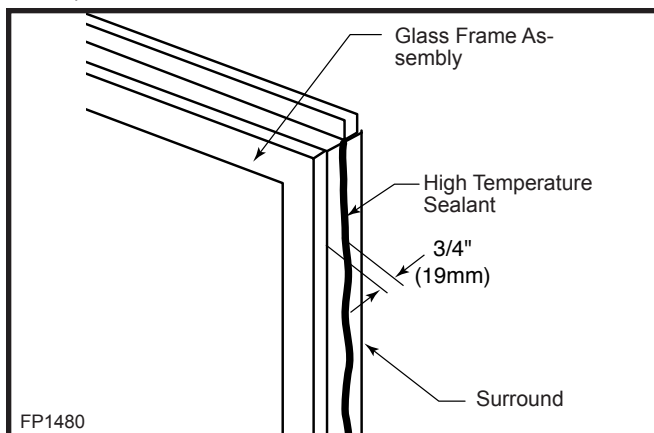

Fig. 26 Apply high temperature sealant on surround around glass frame assembly when unit is installed flush with wall.
1. If the fireplace is installed flush with the wall, a high temperature sealant must be applied to seal around the surround around the glass frame assembly 3/4" (19 mm) from the front edge of the surround. (Fig. 26)